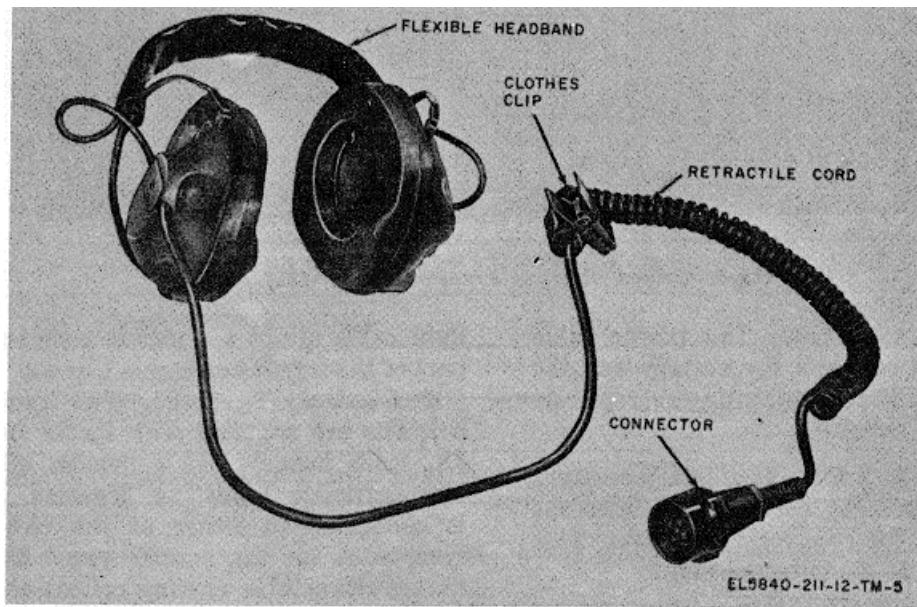

Figure 1-5. Headset, Electrical H-183/PPS-4.
d. *Headset* (fig. 1-5). Two double-earphone headsets are supplied with Radar Set AN/PPS- 4A. Each headset has a flexible headband with two earphone adjusting brackets. The headset is connected to either of the two HEADSET receptacles on the control panel by a two-conductor retractable (spring coiled) cord. A clothes clip mounted on the cord is clipped to the operators shirt or jacket to prevent strain on the cord connected to the headset when the operator moves about and extends the retractable cord.